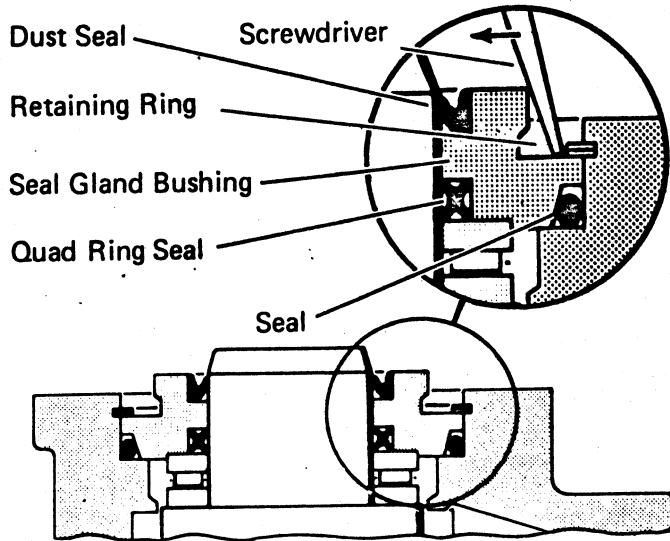

FIGURE 16
11. Install dust seal in seal gland bushing, flat or smooth side of dust seal must face down toward bushing, see Fig.16.